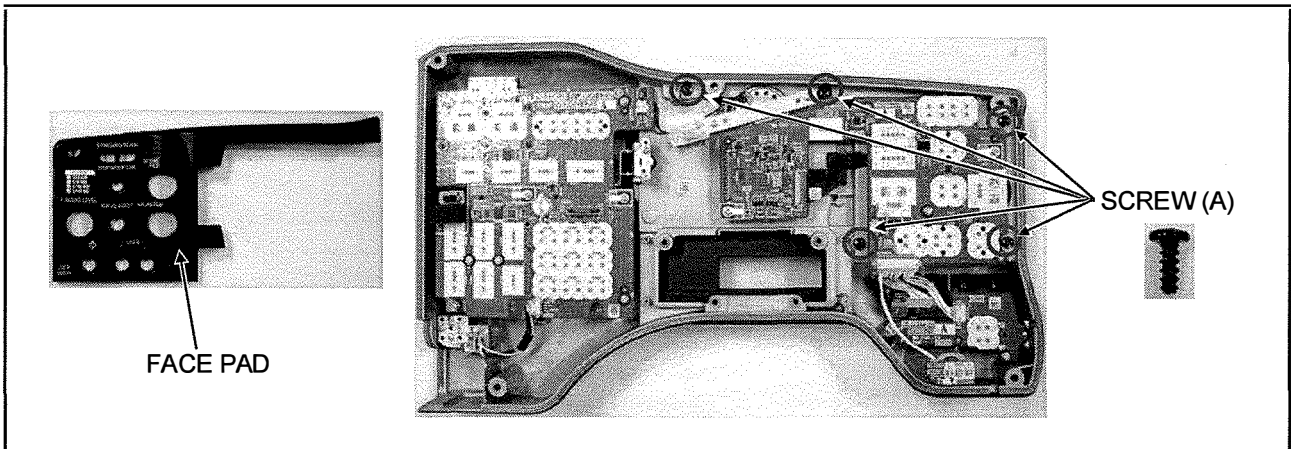

Figure 15-1
2. Unscrew the 5 screws (A) as shown in figure 15-1 and remove the FACE PAD.
4. Connect the flexible cable to connector (A) as shown in 15-2 and then put it cable on FPC HOLD CUSHION.
5. Install the FACE PAD to SIDE CASE PANEL and tighten the 5 screws (A) as shown in figure 15-1.